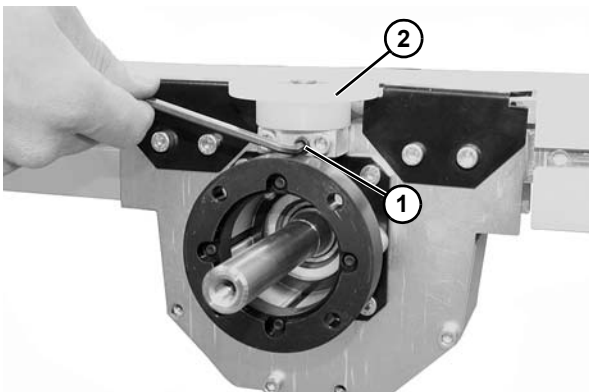

Figure 138
2. Loosen set screw (Figure 138, item 1) and remove belt hold down wheel (Figure 138, item 2).